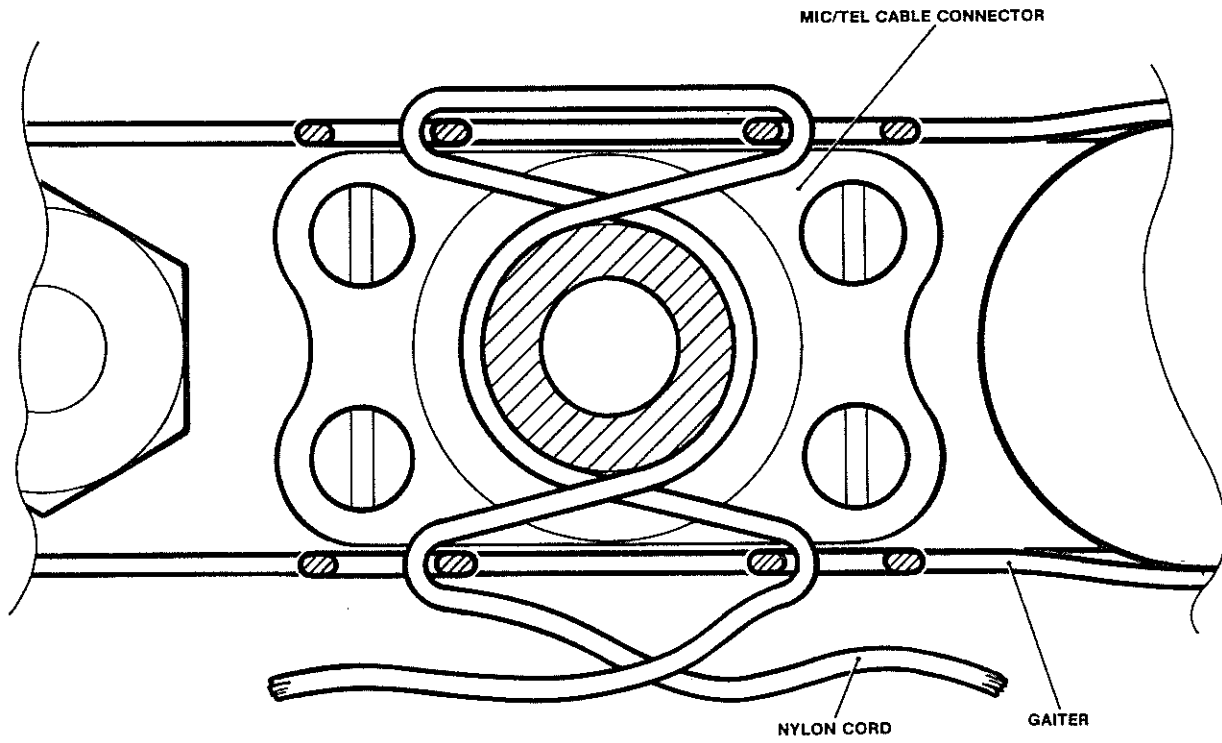

Fig 1 Lacing the gaiter cord
REFITTING GAITER ON HIGH PRESSURE HOSE ASSEMBLY Mk 2 (Fig 1 and 2)
- 23.2 Pass both ends of a length of nylon cord through the two holes in the port side of the gaiter. Cross the cord ends, pass the cord around the mic/tel connector below the gland nut, cross the cords again and pass the ends through the holes in the starboard side of the gaiter (Fig 1).